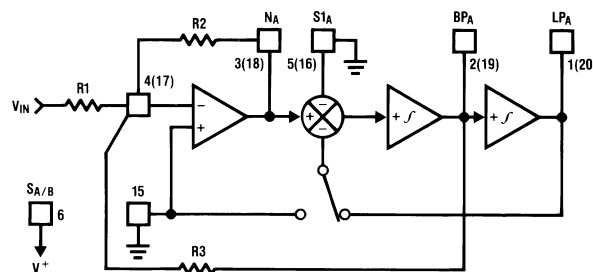

Figure 23. MODE 1
$$f_{\text{notch}} = f_0 \text{ (See Figure 23)} \quad (2)$$